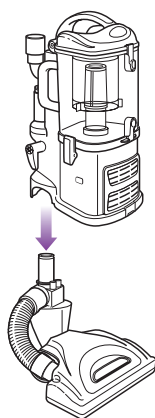

Fig. 8
- 2 Align the tube of the floor nozzle with the tube on the *Lift-Away*® canister and lower until you hear the two pieces click into place. (Fig. 8)